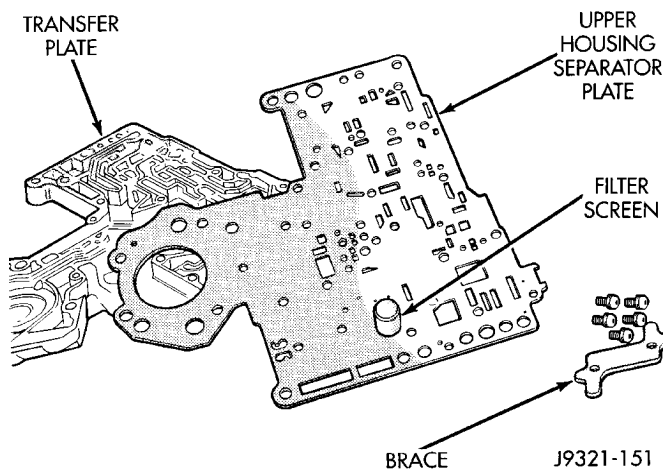
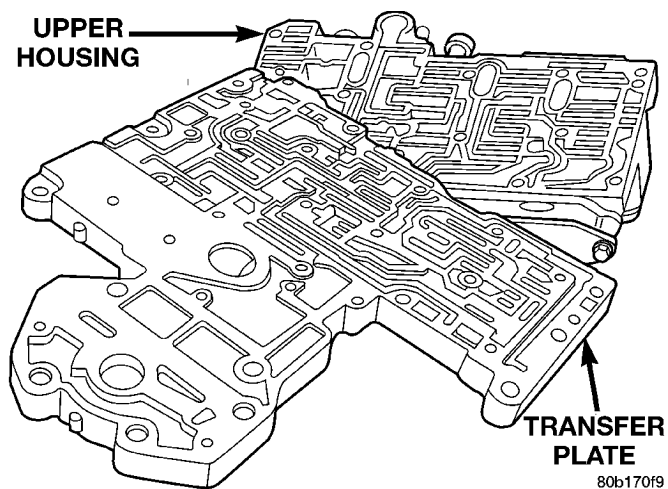

Fig. 63 Upper Housing Separator Plate
Fig. 62 Transfer Plate
(32) Remove transfer plate from upper housing (Fig. 62).
(33) Turn transfer plate over so upper housing separator plate is facing upward.
(34) Remove upper housing separator plate from transfer plate (Fig. 63). Note position of filter in separator plate for assembly reference.